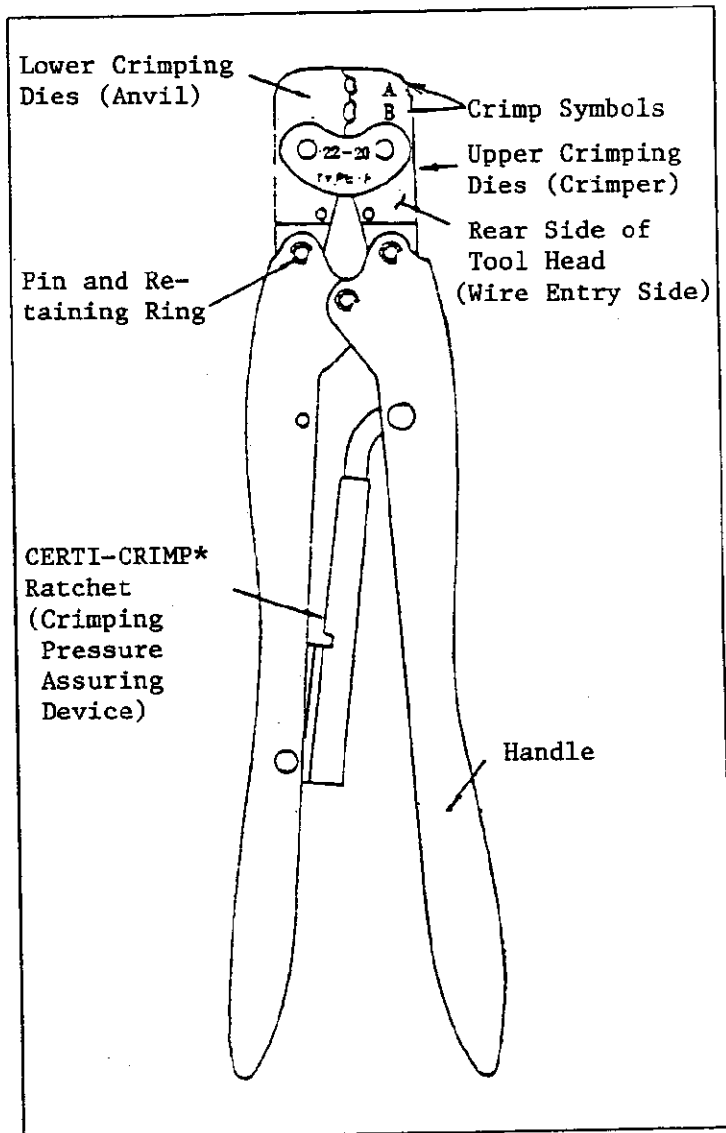

FIG. 1
- Inside the tool head, two sets of crimping dies are provided, where crimp symbols (A or B) are marked on to indicate proper selection of dies. (See Fig. 1.)